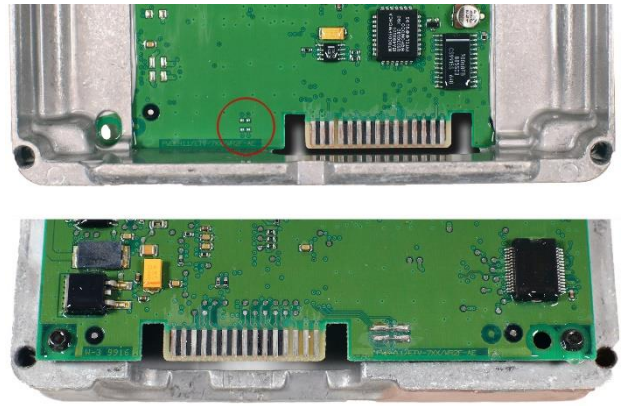

Figure 4 AU Series 1 ECU
7. **AU Series 1 only.** If your ECU is missing two small black resistors between the pads circled in the picture **on the top side of the board**, you will need to join the J3 Enable links **on the back side of the board** as shown in the Figure 4 for the J3 port to detect the Chip.